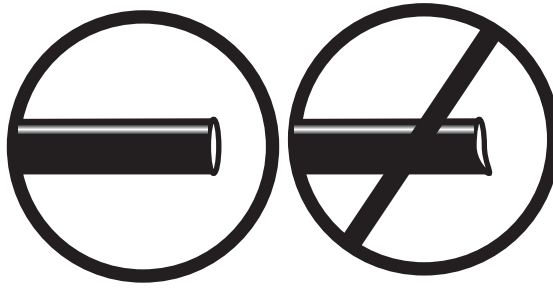

fig. 9
- a. Check the air line connection by deflating the spring and removing the line by pulling the collar against the fitting and pulling firmly on the air line. Trim 1" off the end of the air line. Be sure the cut is clean and square (see fig. 9). Reinsert the air line into the push-to-connect fitting.